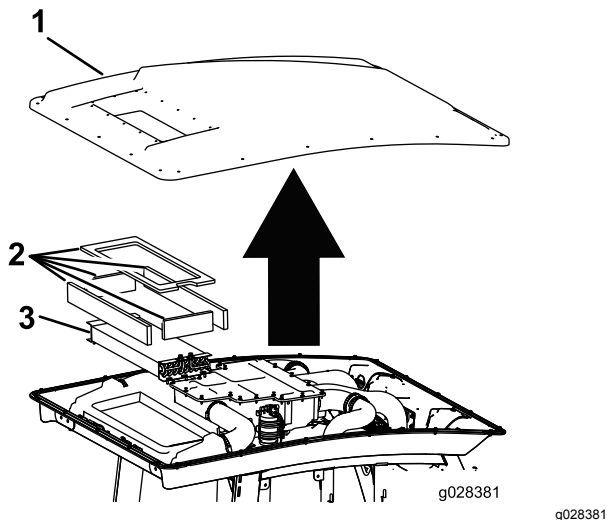

Figure 72
3. Remove the cabin roof of the cab by removing the 22 bolts that secure the roof (Figure 72).
4. Remove the air filters (Figure 72).